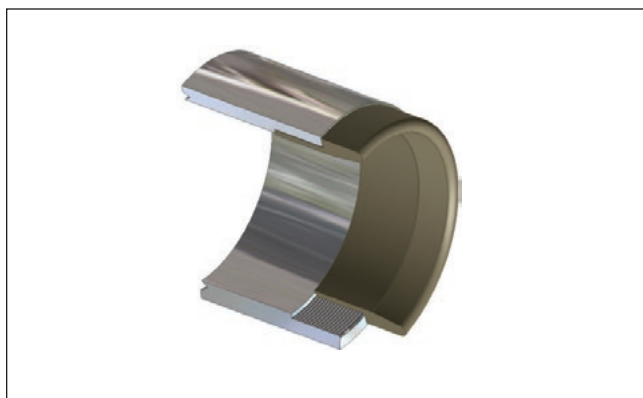

Figure 2-16. Thread protection installation tool cutaway view
- 2. Nick and Cut Protection.** Threads, sharp corners and burrs can damage the seal. Care should be taken to avoid contact with these surfaces. Burrs must be removed, sharp corners should be blunted or radiused, and threads should be masked or shielded with special insertion tooling (see Figure 2-16). Although it is good practice to take extra care in the handling and manipulation of the seal, this is seldom sufficient and it usually requires either a safety tool or masking to protect the seal against such damage.